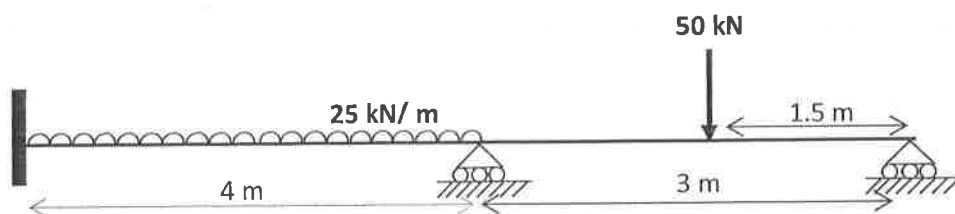

Fig. 4
5. Analyse a beam supported and loaded as shown in Fig. 4, using stiffness method. (8 M)